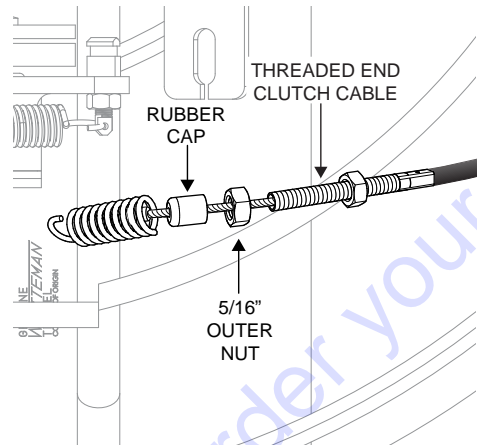

Figure 17. Outer Nut And Rubber Cap Removal
- Remove the 5/16" outer nut (Figure 17) and rubber cap from the threaded end on the clutch cable.